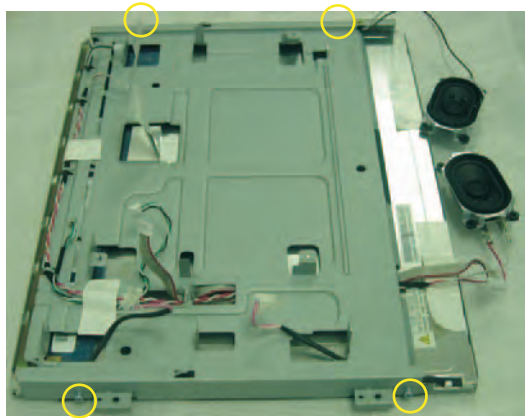

Fig.9
Step 5. Remove MAIN Frame ASSY as Fig.9.
Remove the 4 screws as Fig.9.